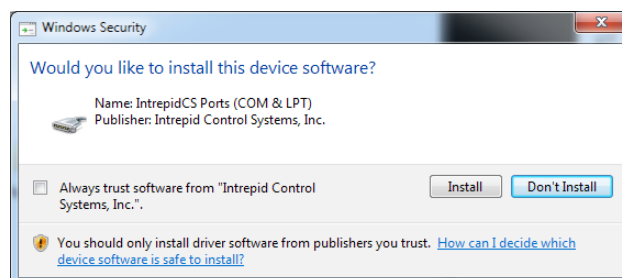

Figure 32: Windows Security Dialog Box.
10. **Install ICS Port Drivers:** Click **Next >** to begin installing the ICS port drivers. If you see a Windows dialog like the one in Figure 32, click **Install** to authorize installation.